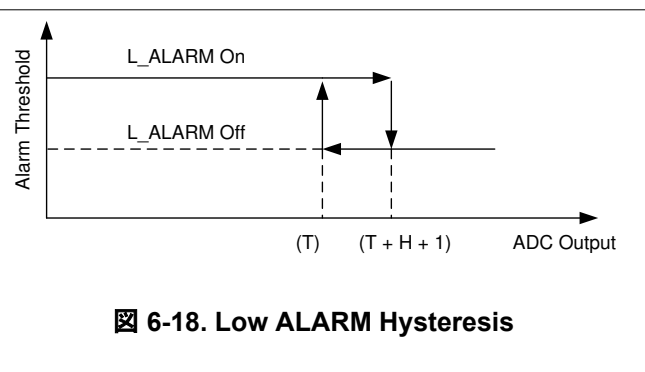

Figure 6-18. Low ALARM Hysteresis
Similarly, the input low alarm is triggered when the digital output falls below the low alarm lower limit [low alarm threshold (T)]. The alarm resets when the digital output is greater than or equal to the low alarm higher limit [low alarm (T) + H + 1]. Figure 6-18 shows this function.